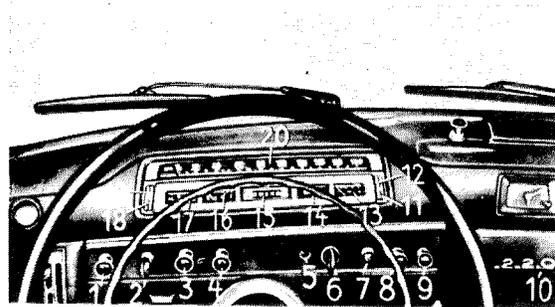

Fig. 46-8/1
6. Unscrew the pull switch for the roof light (1), the rotary light switch (2) and pull switch for the instrument lighting (3) and pull them out of the mounting plate without disconnecting the cables (see Fig. 46-8/1).
7. Unscrew the choke control knob (8) with escutcheon (Fig. 46-8/1).
**Note:** a) On Model 220 SE there is no choke control knob (8). The arrangement of the other control knobs on the mounting plate is as shown in Fig. 46-8/1.
b) On Model 220 a and the 1st version of Model 220 S the ignition control knob (10) (octane number compensator) is to the right of the choke control knob. The pull switch for the demisting blower is arranged to the left of the charging light (Fig. 46-8/2).